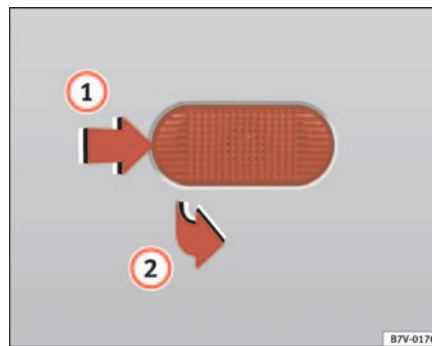

Fig. 163 Side turn indicator
- Slide the turn signal forwards ① ⇒ fig. 163 and remove ②.